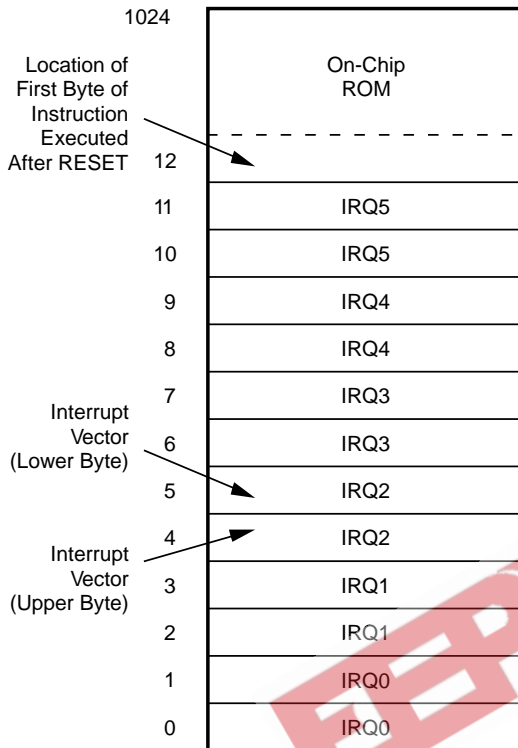

Figure 12. Program Memory Map
**Program Memory.** The Z8 addresses up to 512 bytes of internal program memory (Figure 12). The first 12 bytes of program memory are reserved for the interrupt vectors. These locations contain six 16-bit vectors that correspond to the six available interrupts. Bytes 0-511 are on-chip one-time programmable ROM.